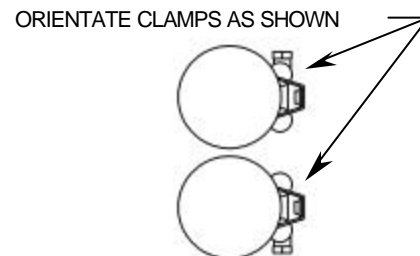

FIGURE 4
11. Remove the muffler assembly from the box and slide two supplied clamps #27-61MSC onto each muffler tube. Refer to Figure 4 for proper alignment.
15. To install the front heatshield, first slide the rear portion of the heatshield over the muffler, continue to slowly slide it forward pushing the front of the shield gently into place between the frame and motor (Hint: Spread the hose clamps apart slightly to make it easier to slide them over the muffler assembly and headpipes). Make sure the muffler clamps don't interfere with the heatshields and are aligned as shown in Figure 4. Snug the heatshield clamps but **DO NOT TIGHTEN**.